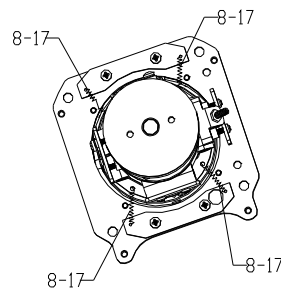

Figure 6
2. Using an electric soldering iron, de-solder the 4 hairsprings (8-17#), as shown in figure 6.